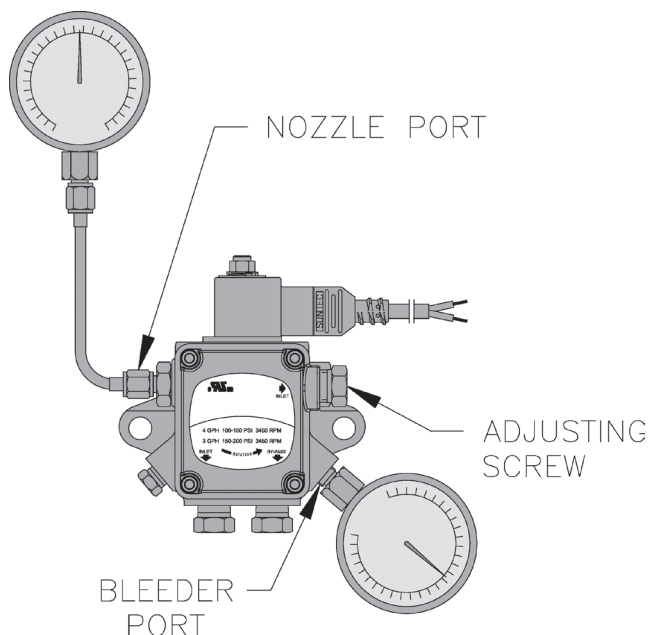

Figure 37: Adjusting Fuel Pump Pressure
- a. When checking a fuel unit's operating pressure, a reliable pressure gauge may be installed in either the bleeder port or the nozzle port. For Beckett burner refer to Figure 37.